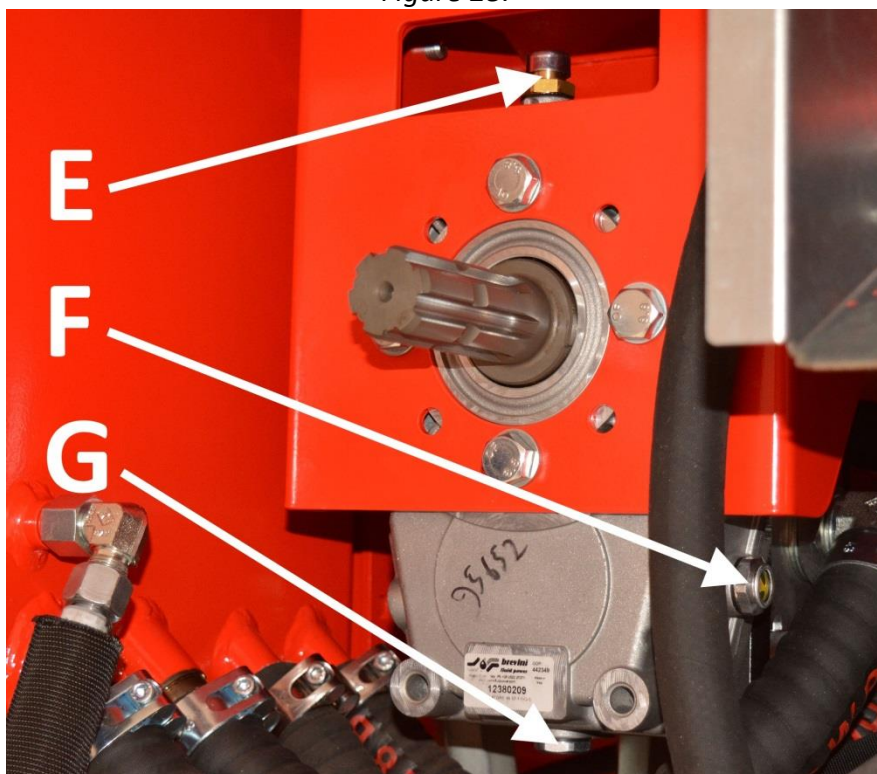

Figure 29.
3. Remove drain plug G (Figure 29) and pour the oil in a suitable container.
4. Close plug G and open filler cap E (Figure 29).
5. Feed the new oil to the multiplier gear and close filler cap E. The required amount is 0.34 litres. You can check the oil level through oil level gauge F (Figure 29).